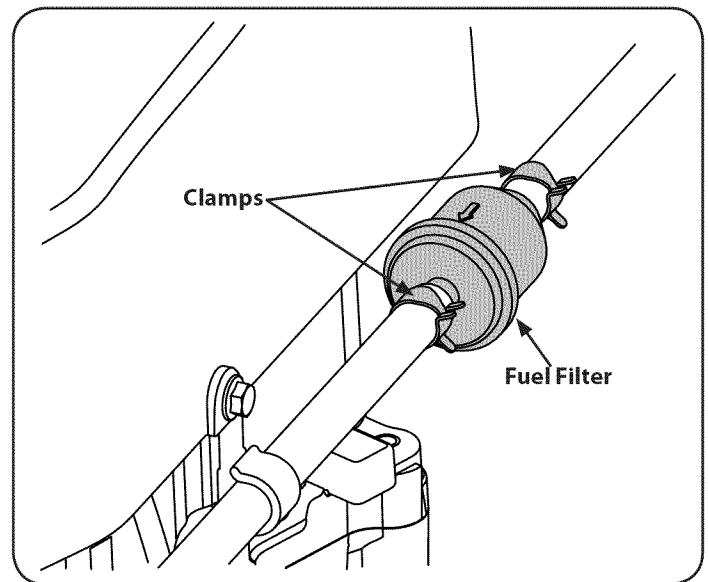

Figure 28
1. Locate the fuel filter, which is routed on the right side of the engine between the fuel tank and the engine. See Figure 28.
2. Use pliers to squeeze tabs on the clamps, then slide the clamps away from the fuel filter. Twist and pull the fuel lines off of the fuel filter. Refer to Figure 28.